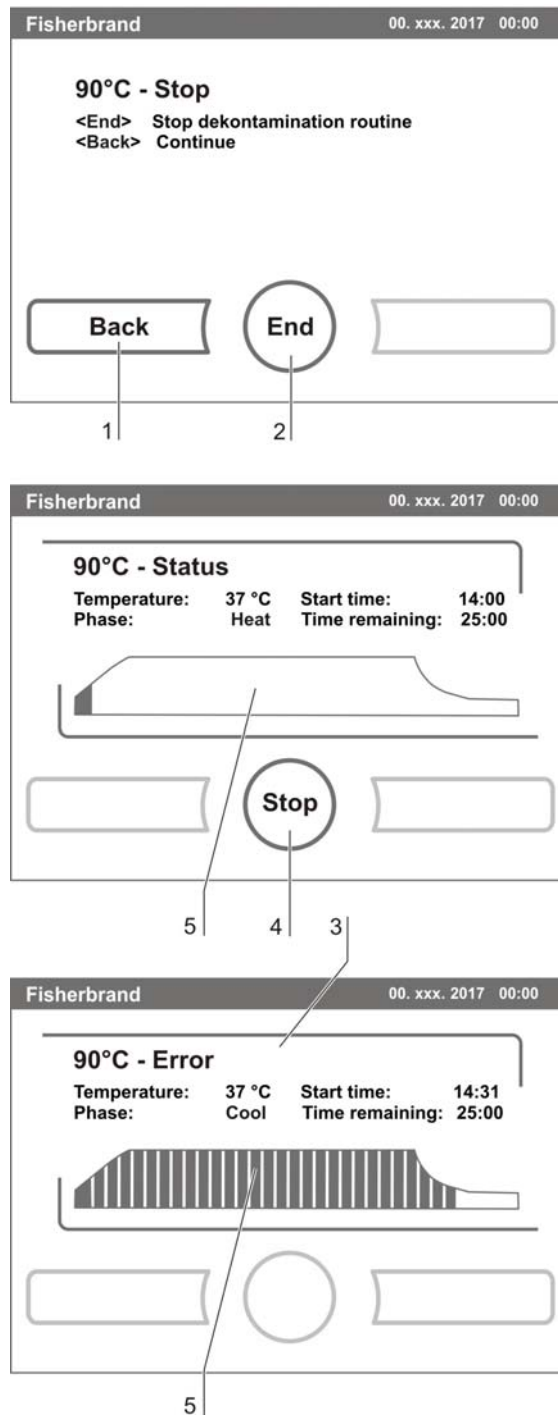

Figure 48. Interrupting / canceling 90°C
- **Fig. 48:** While the 90°C decontamination routine is running, the display shows the current status [5] and outputs the following information: